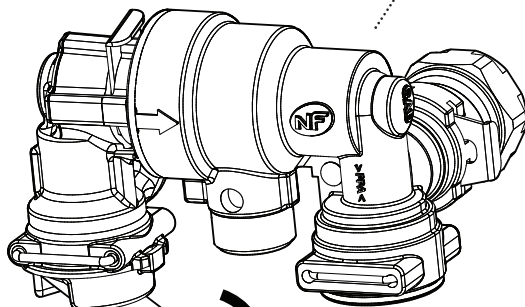

Fig. 3b
5. Hold the spring loaded green lever in the open position until the correct pressure (between 1 & 2 bar) is registered on the gauge (Fig. 3b). Release the lever.